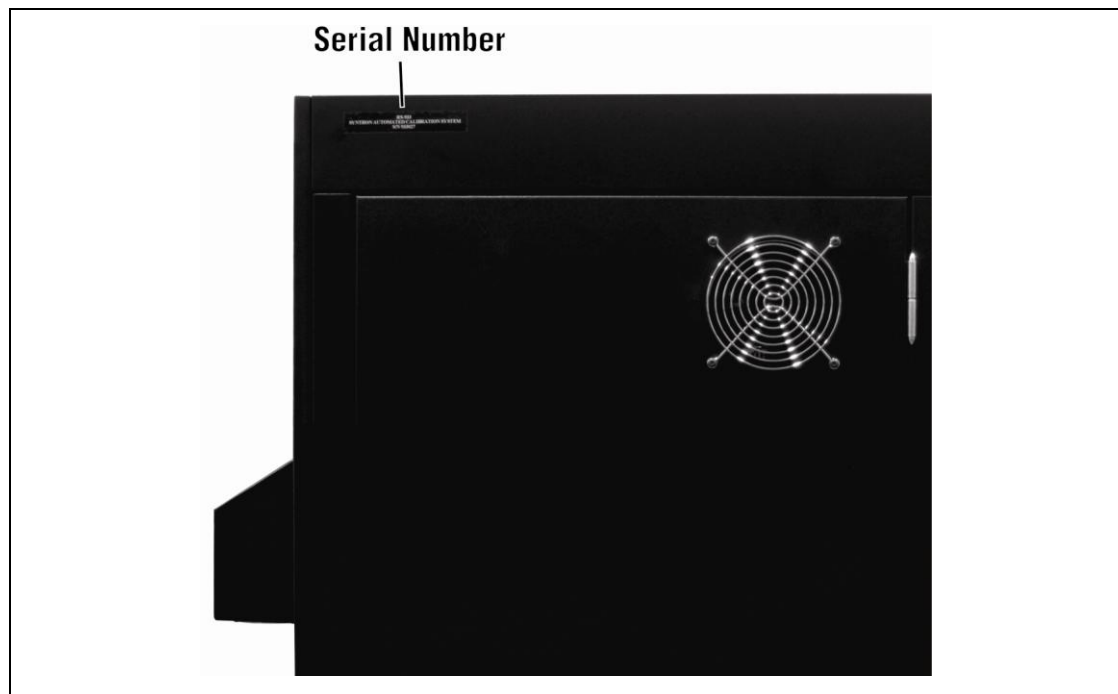

Figure 3. RS-933 Nameplate Containing Equipment Serial Number
- The serial number can be found on the top left corner on the rear of the unit (see Figure 3).